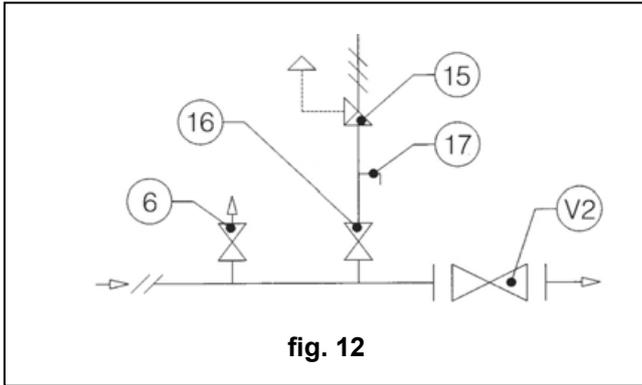

fig. 12
3.1.2 INSTALLATION WITH ON-OFF VALVE (fig. 12)